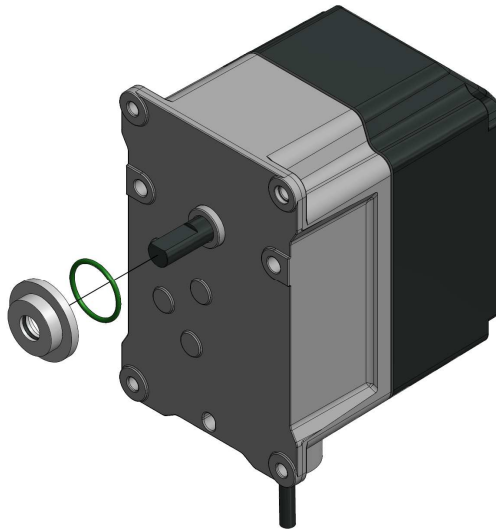

Figure 2: Shaft Seal Assembly
1. Place the shaft seal O-ring into the annular groove on the back of the shaft seal. Then, slide the shaft seal over the actuator shaft as shown in Figure 2. Make sure that the shaft seal O-ring does not fall out of the annular groove when sliding the shaft seal over the actuator shaft.